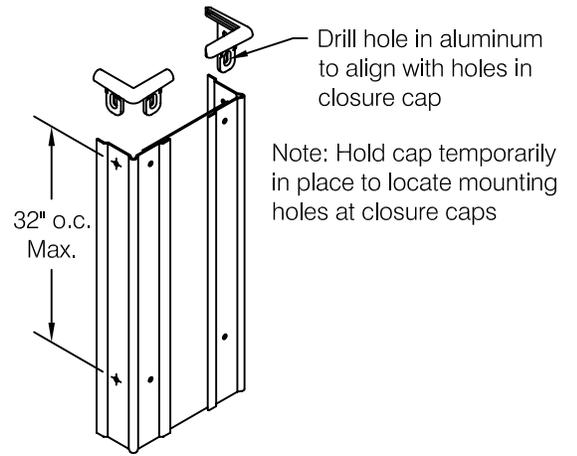

fig 2
**Step 2:** If installing on masonry pre-drill clearance holes in aluminum retainer for hardware listed below using a #15 (.180") bit for #8 fastener. Locate mounting holes at closure caps and along the retainer not to exceed 32" on center, see **fig 2**. If installing on gypsum wall with stud backing proceed to **step 3**.
*Drywall Installation:* Locate mounting holes at closure caps and along the retainer not to exceed 32" on center, see **fig 2**. If it is necessary to install fasteners in locations where there is no metal backing or stud use pre-drilled aluminum as a template to mark and drill wall for plastic Alligator® insert in accordance with instructions provided with hardware.